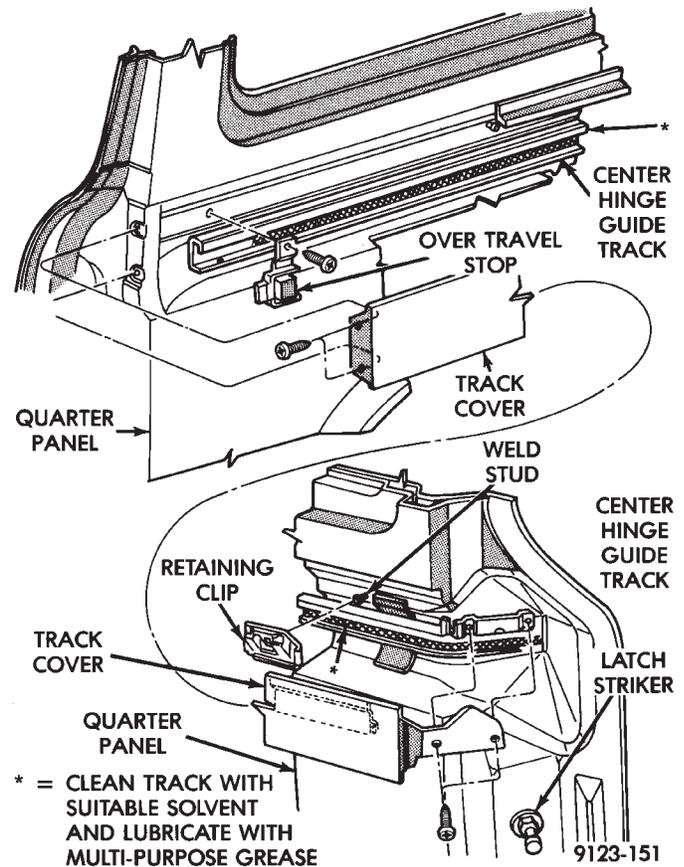

Fig. 24 Sliding Door Center Hinge Track Cover and Over Travel Stop
SLIDING DOOR CENTER HINGE TRACK COVER REMOVAL (FIG. 24)
- (1) Remove sliding door center hinge track cover.
- (2) Remove screw holding over travel stop to center hinge track (Fig. 24).
- (3) Remove sliding door trim panel.
- (4) Mark hinge location on sliding door for reference points when installing.
- (5) Support Sliding door on a suitable lifting device.
- (6) Remove bolts holding center hinge to sliding door.
- (7) Separate hinge from door.
- (8) Slide hinge rollers from open end of channel at rear of quarter panel.